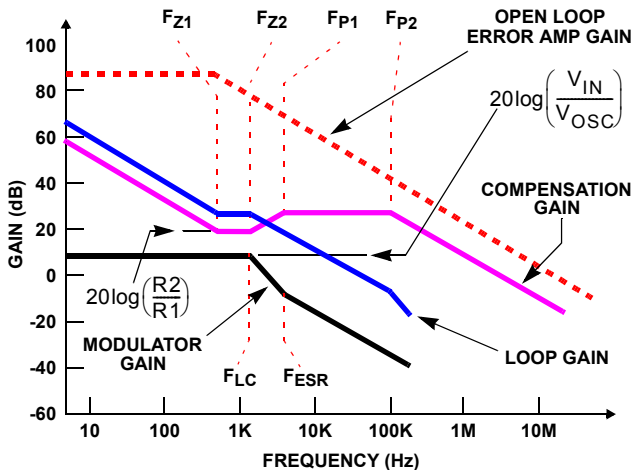

FIGURE 8. ASYMPTOTIC BODE PLOT OF CONVERTER GAIN
Figure 8 shows an asymptotic plot of the DC-DC converter's gain vs frequency. The actual Modulator Gain has a high gain peak due to the high Q factor of the output filter and is not shown in Figure 8. Using the above guidelines should give a Compensation Gain similar to the curve plotted. The open loop error amplifier gain bounds the compensation gain. Check the compensation gain at F_{P2} with the capabilities of the error amplifier. The Closed Loop Gain is constructed on the graph of Figure 8 by adding the Modulator Gain (in dB) to the Compensation Gain (in dB). This is equivalent to multiplying the modulator transfer function to the compensation transfer function and plotting the gain. The compensation gain uses external impedance networks Z_{FB} and Z_{IN} to provide a stable, high bandwidth (BW) overall loop. A stable control loop has a gain crossing with $-20dB/decade$ slope and a phase margin greater than 45 degrees. Include worst-case component variations when determining phase margin.